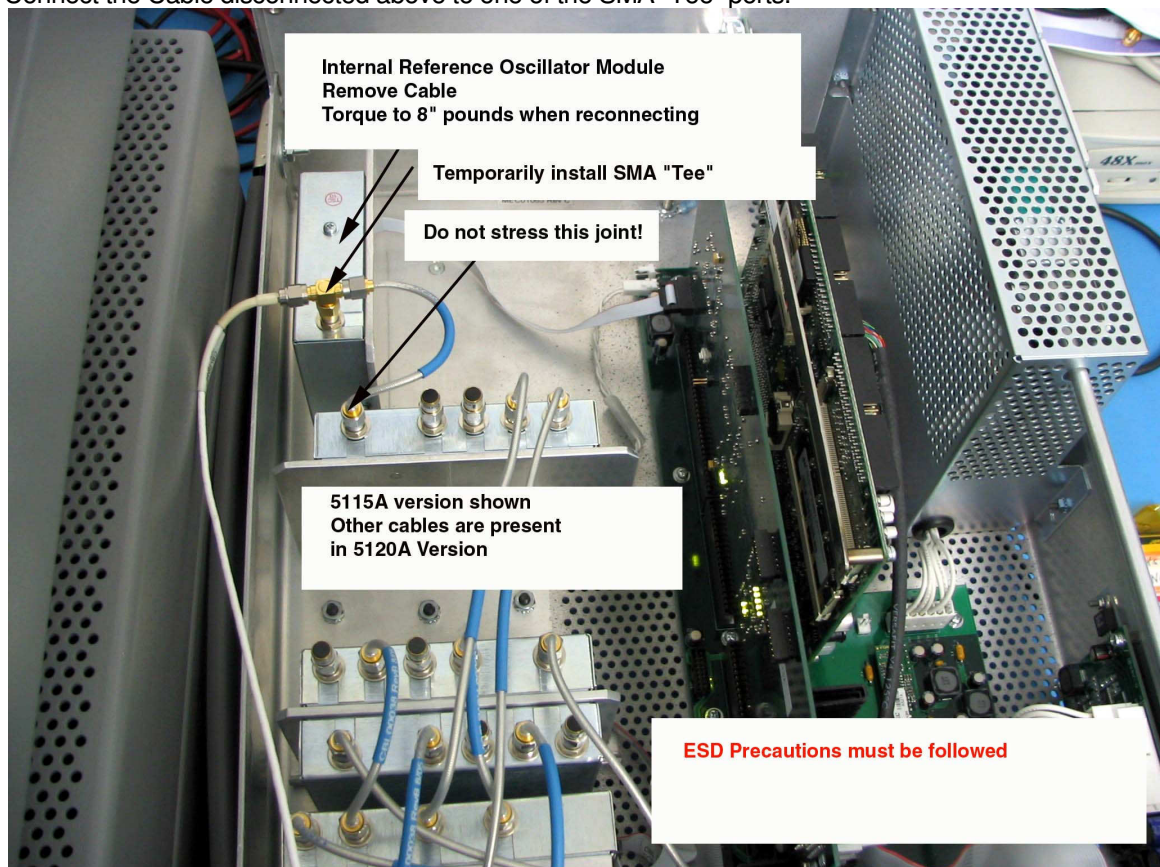

Figure 2 – Main Reference Oscillator Tuning Range Test Configuration
Note: Figure 2 depicts a TSC 5115A. The TSC 5120A includes two additional modules and several cables. Those changes do not change this test configuration.
- Remove the Instrument's cover ,and configure the Instrument as shown in Figure 2 using the following instructions: